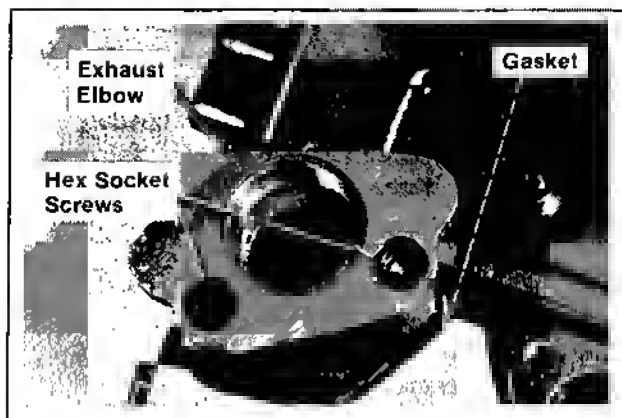

Figure 9-2. Removing Exhaust Elbows.
2. Remove the hex. socket screws, exhaust elbows, and gaskets. Refer to Figure 9-2.